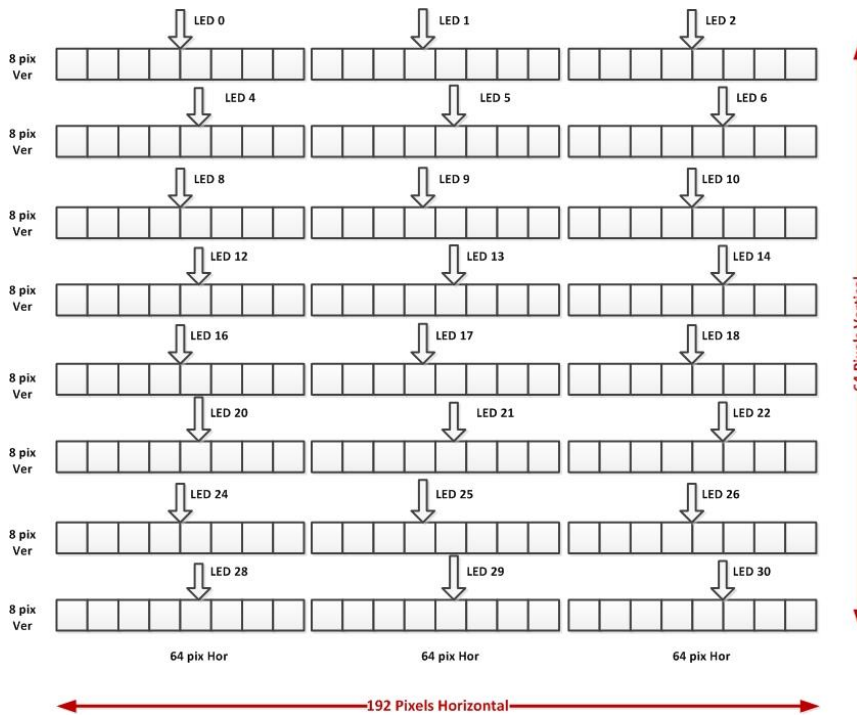

Figure 6.8 192x64 LED Display Built by 8x8 LED Panels
The number of LED outputs combined to drive the horizontal LED band must be divisible by two (2). The Figure 6.8 192x64 LED Display Built by 8x8 LED Panels explains the use of LED outputs
The **Figure 6.8** shows that LED outputs number 3, 7, 11... cannot be used. It effectively decreases the LED driving capacity from the max. 16,384 LEDs to 12,288 LEDs. It represents the 25% decrease of the driving capacity.